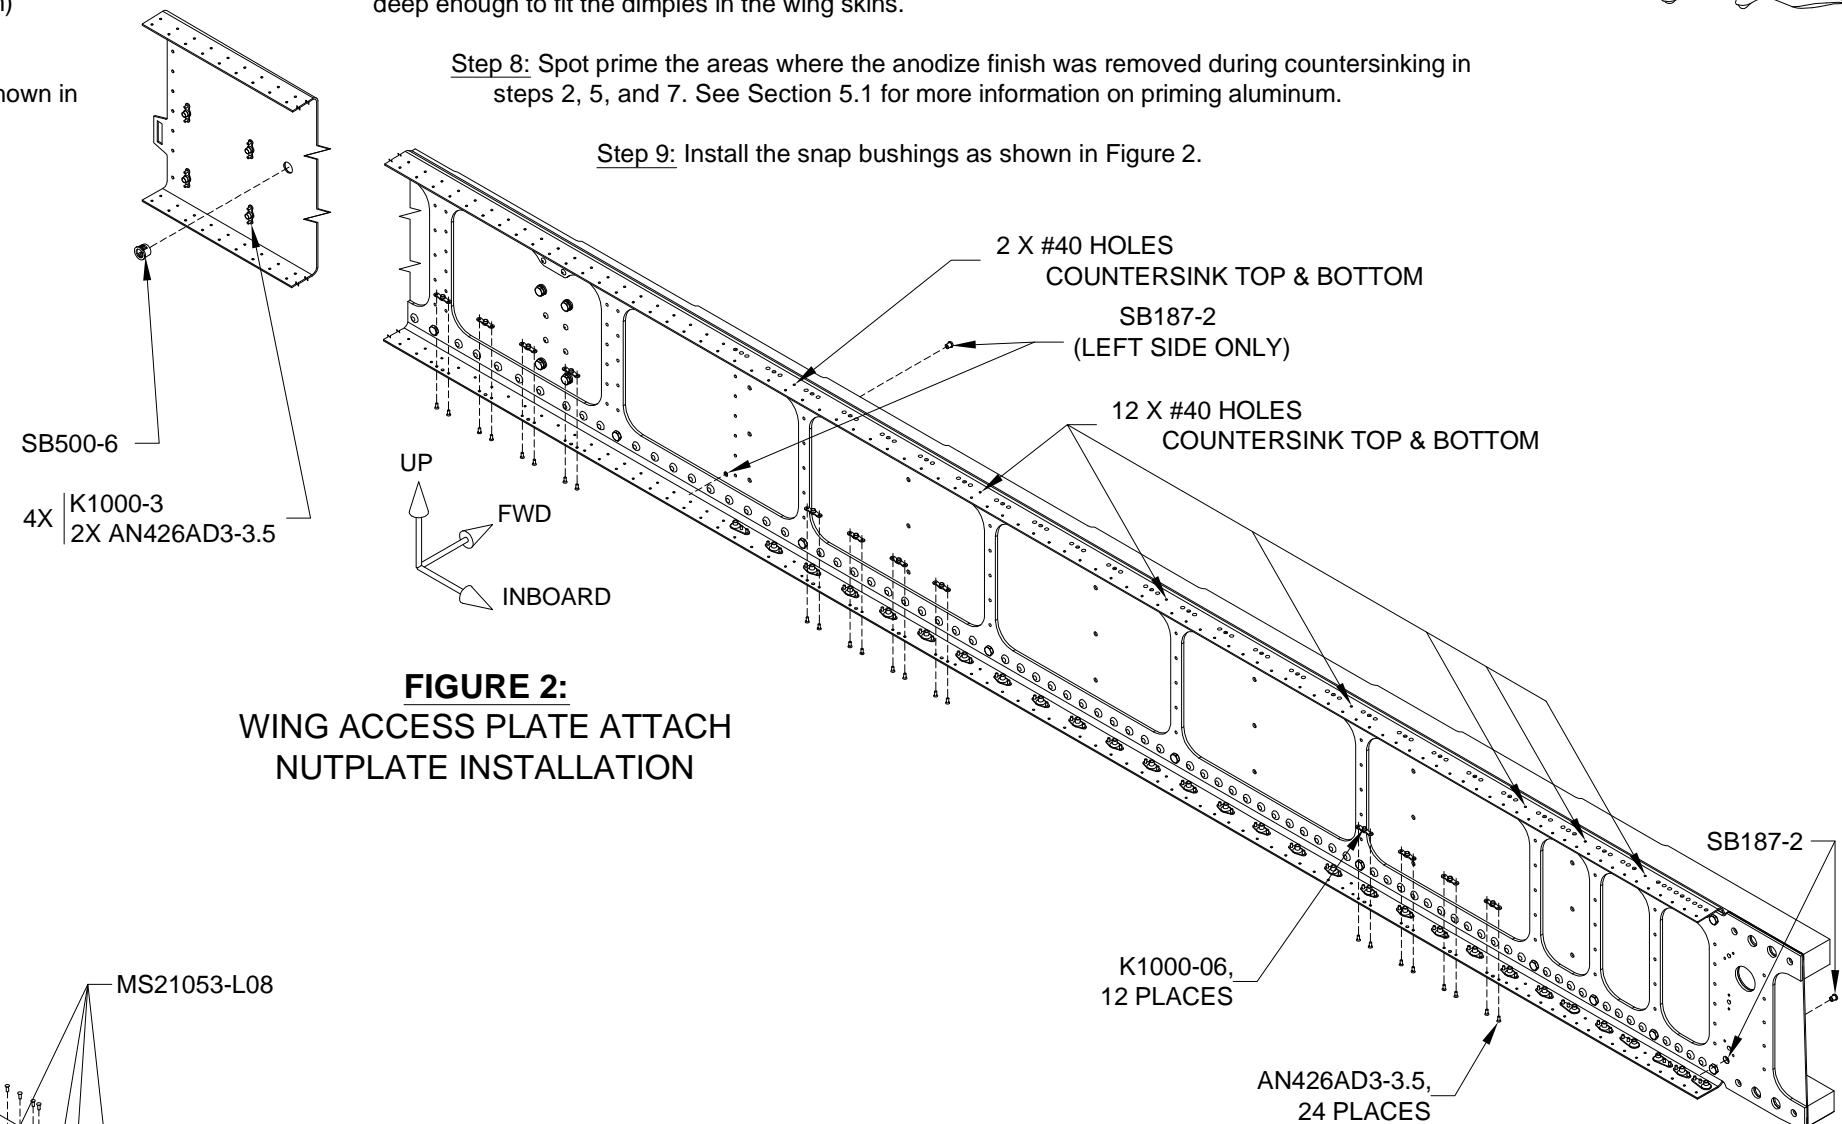

FIGURE 2:
Step 6: Rivet the wing access plate attach nutplates to the W-00006-L Main Spar Assembly as shown in Figure 2.
Step 9: Install the snap bushings as shown in Figure 2.